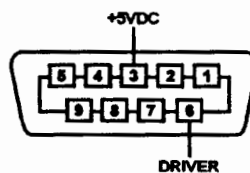

Figure 6: DriverPort Pins
The GPIB and RS232 ports enable measured values (BR, loss, and so on) to be downloaded to an external computer or printer. The driver enables the use of up to two external sources via a 1x2 switch. On the driver, pin 3 sets the 5 V DC voltage and pin 6 is assigned to the driver (Figure 6). None of the other pins are used.
1. Press the INPUT key. The corresponding status LED lights to indicate the active input setting. For models with one or two internal sources, the internal optical switch of the multimeter automatically selects either one of the internal laser diode sources (INT1 or INT2) or the IN connector (EXT), depending on the active input setting. The driver (pin 6 of the driver port, as shown in Figure 6) at the back of the multimeter also changes its output with respect to the input setting; for example, for the PS3000 model, it is active for input setting 2 and inactive for input settings 1 and 3. For a model with one internal source, it is active for input setting EXT1 and inactive for input settings INT and EXT2. For a model with two internal sources, it is active for input setting EXT and inactive for input setting INT1 and INT2, in order to facilitate the use of an external wavelength source.
2. Connect up to two external sources through a 1x2 optical switch that is controlled from the driver (pin 6 of the driver port, as shown in Figure 6) of the multimeter. If this is not done now, then the connections have to be changed when the sources are switched. If a dual wavelength source is to be used with the multimeter, it is possible to use the driver to control the source, depending on the external controls of the source. For example, if pin 6 is set to 0 V, there is a potential difference between this pin and pin 3 (set for 5 V), and the laser source can be chosen using the internal 1x2 switch